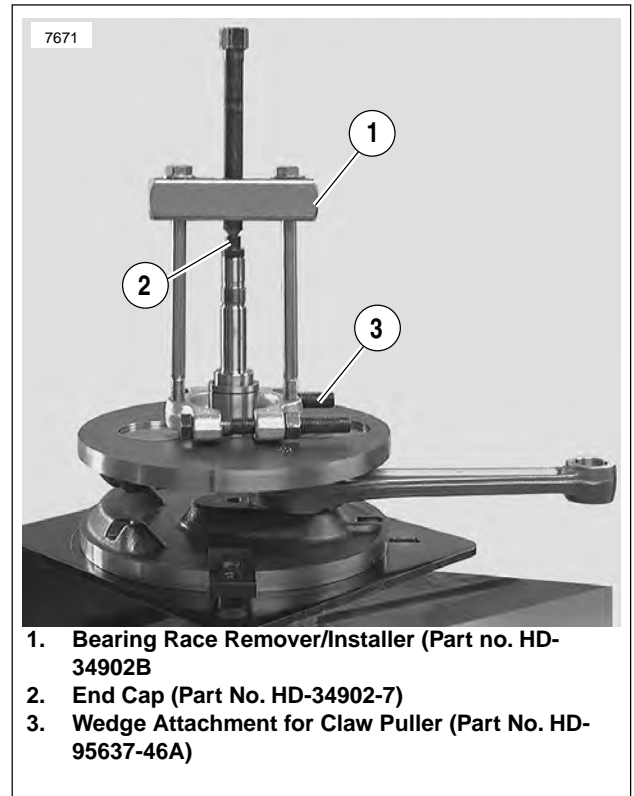

Figure 3-120. Pulling Pinion Shaft Inner Race
13. See Figure 3-120. To remove pinion shaft inner race, use WEDGE ATTACHMENT for CLAW PULLER (Part No. HD-95637-46A) with BEARING RACE REMOVER/INSTALLER (Part No. HD-34902B) and END CAP (Part No. HD-34902-7). Apply heat to race to aid removal. Four sizes of pinion bearings are available. Pinion bearing selection at the factory, during engine rebuild, or replacement of crankcase set or flywheel assembly is based on the largest measured outside diameter (OD) of the inner race and the smallest measured inside diameter (ID) of the outer race (crankcase bushing). A running clearance of 0.0002-0.0008 in. (0.0051-0.0203 mm) is established during crankcase set or flywheel assembly replacement and engine rebuild.